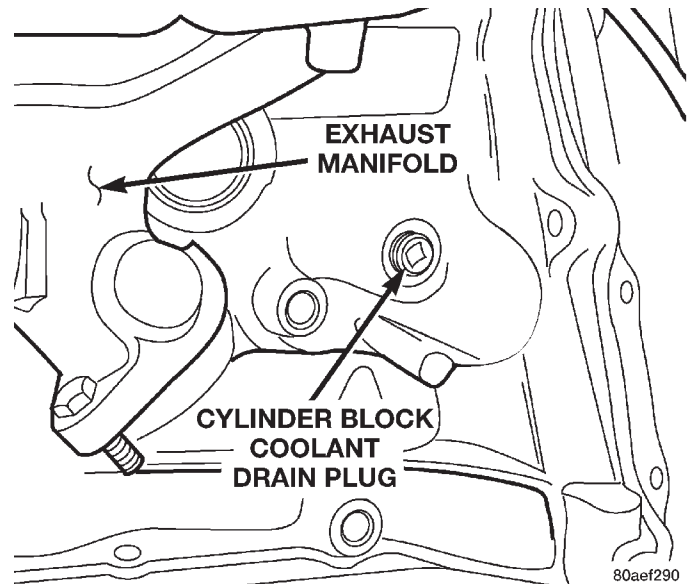

Fig. 15 Draining Coolant From Block—2.5L/4.0L Engines
- (1) Drain the coolant from the radiator by loosening the draincock.
- (2) Drain coolant from engine block by removing drain plug at left rear side of block (Fig. 15).